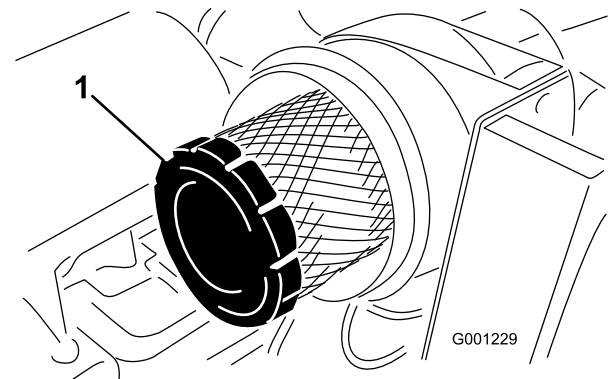

Figure 39
3. Remove and replace the primary filter (Figure 39). Cleaning of the used element is not recommended due to the possibility of damage to the filter media. Inspect the new filter for shipping damage, checking the sealing end of the filter and the body. Do not use a damaged element. Insert the new filter by applying pressure to the outer rim of the element to seat it in the canister. Do not apply pressure to the flexible center of the filter.